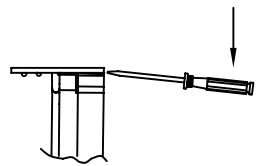

Figure 10
- 9a. Cap may be removed by prying downward as shown. (Figure 10)